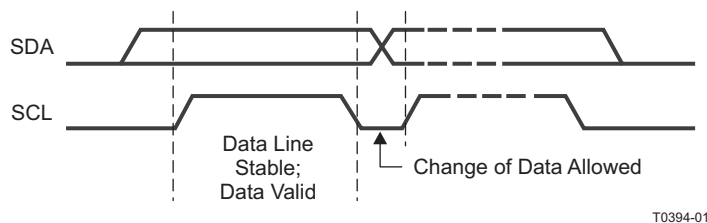
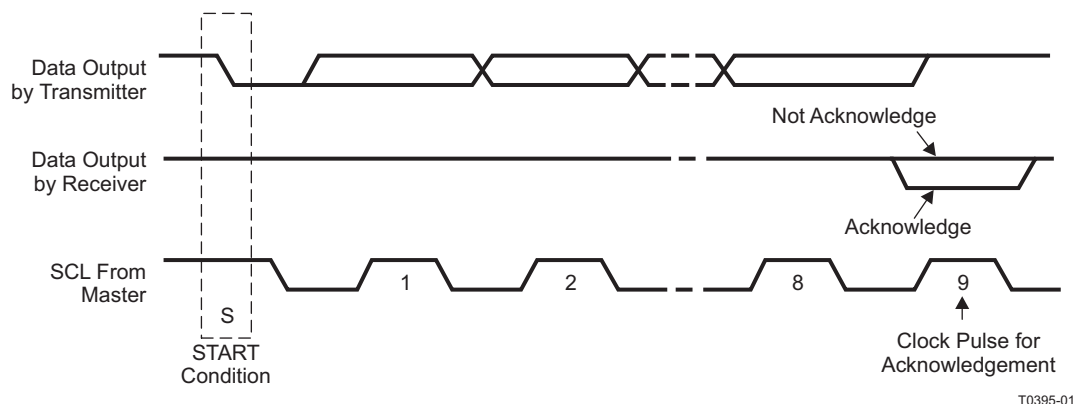

Figure 37. I²C Bit Transfer
Figure 38. I²C Acknowledge
- The master then generates the SCL pulses and transmits the 7-bit address and the *read/write direction bit* R/W on the SDA line. During all transmissions, the master ensures that data is *valid*. A *valid data condition* requires the SDA line to be stable during the entire high period of the clock pulse (see Figure 37). All devices recognize the address sent by the master and compare it to their internal fixed addresses. Only the slave device with a matching address generates an *acknowledge* (see Figure 38) by pulling the SDA line low during the entire high period of the ninth SCL cycle. On detecting this acknowledge, the master knows that a communication link with a slave has been established.